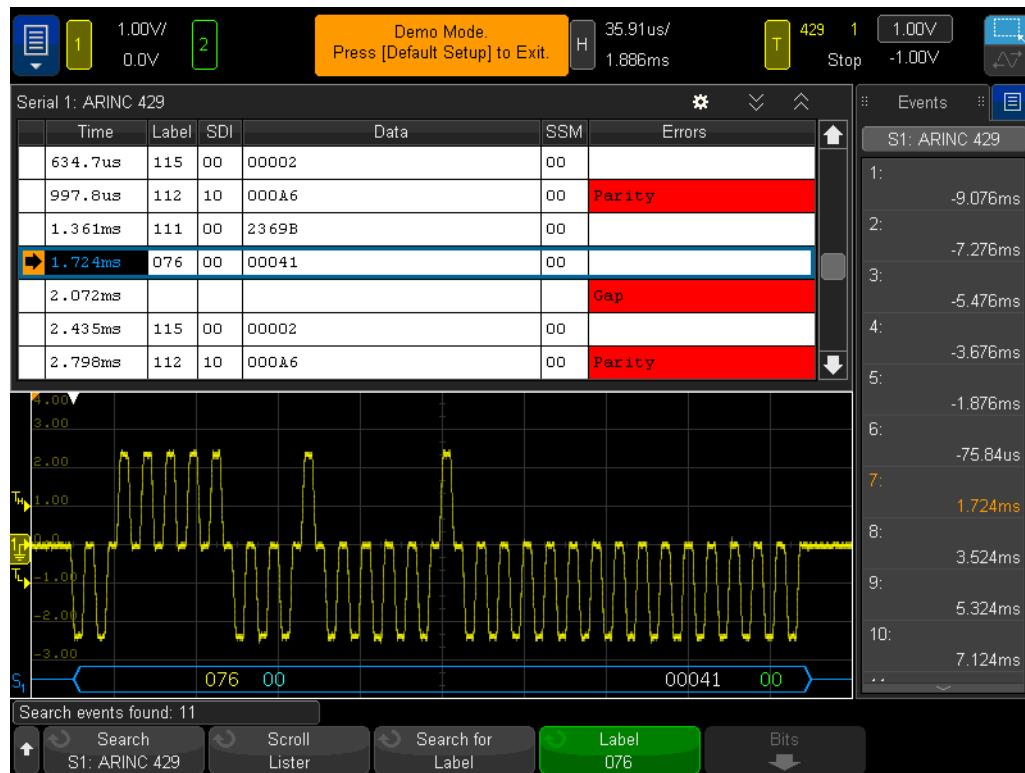

Figure 97 Using the lyster to view decoded information.
- 18 Use the **◀** and **▶** front panel navigation keys to automatically scroll through all search results. The lower screen will automatically zoom into the word in the search list, and point to it in the lister window. See **Figure 97**.